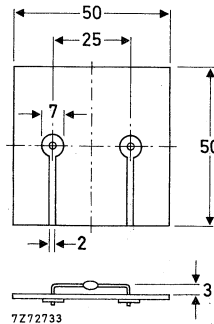

Fig. 2 Mounted on a printed-circuit board.
2. Thermal resistance from junction to ambient; device mounted on a 1,5 mm thick epoxy-glass printed-circuit board; Cu-thickness  $\geq 40\text{ }\mu\text{m}$ ; Fig. 2